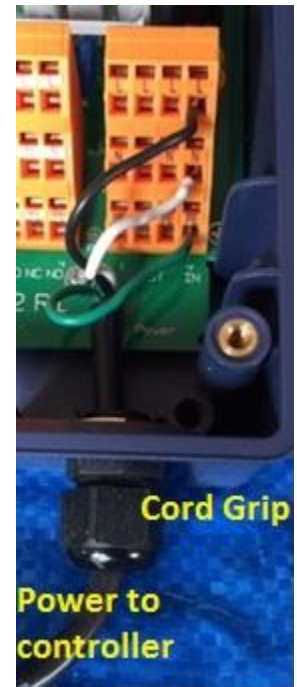

Figure 20 Factory installed power
The two large orange terminal blocks on the right each have 3 levels; **Line**, **Neutral** and **Ground (PE)**. Input power is connected to the right most row of this block. See Figure 20.